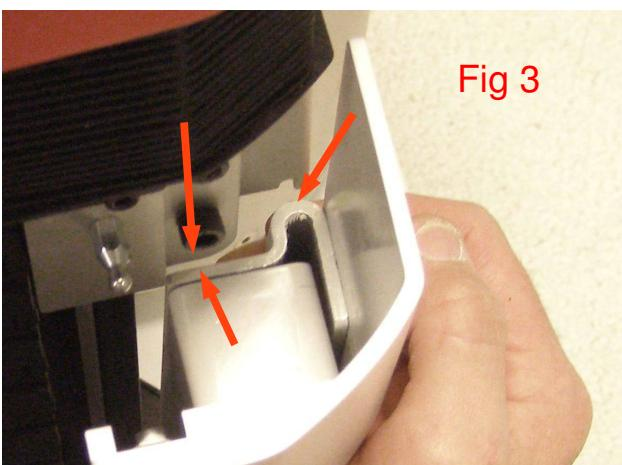

Fig 3
3. Pull the top back until the Panel clears the Aluminum boss. (Fig 3,6)